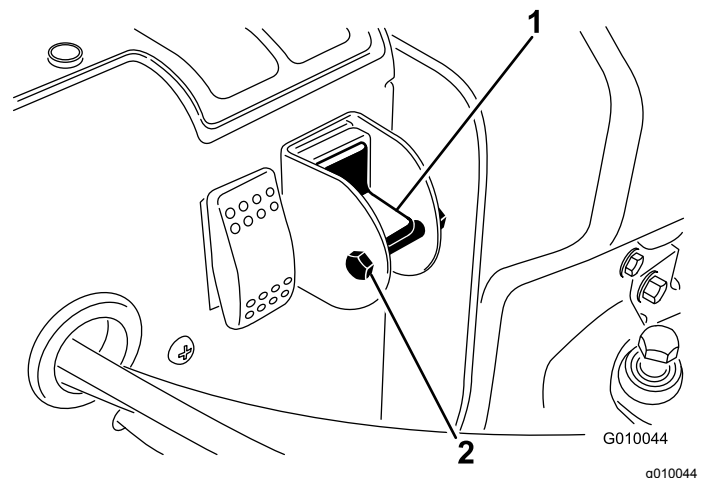

Figure 23
4. Remove the locking bolt and nut from the selector switch (Figure 23).